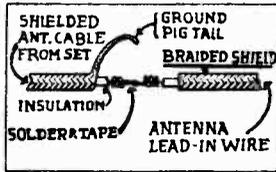
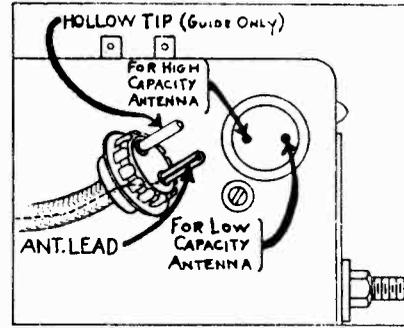

FIG. 16
FIG. 17
1. ANTENNA CONNECTION. The shielded antenna lead should be soldered to the antenna lead-in as shown in Figure 16. The position in which the plug is inserted into the receiver depends upon the type of antenna used in the installation. The antenna lead plug has two tips, one soldered and one blank. If a low capacity antenna is used, the soldered tip of the plug is inserted in the hole specified in Figure 17. If a high capacity antenna is used, the soldered tip of the plug should be inserted in the hole indicated for high capacity antenna.
If an under car or running board antenna is used, the shielding must be extended to the antenna in all cases. The pigtail on the end of the antenna cable shield must be well grounded at the extreme antenna end. If it is necessary to extend the antenna cable shielding as described below, be sure that a pigtail is put on the end of the shielded extension and that it is well grounded at the extreme antenna end. (See Fig. 16).